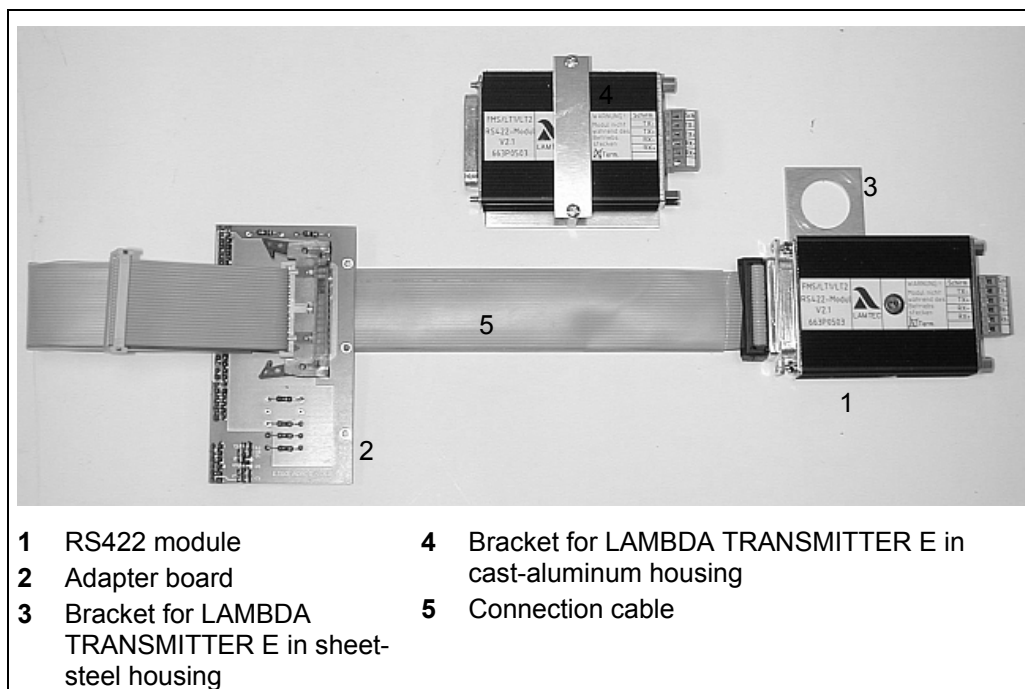

Fig. 10-10:
Secure the holding plate (3), with the RS422 module (1) attached, to the cable connection (a). See Fig. 10-10.